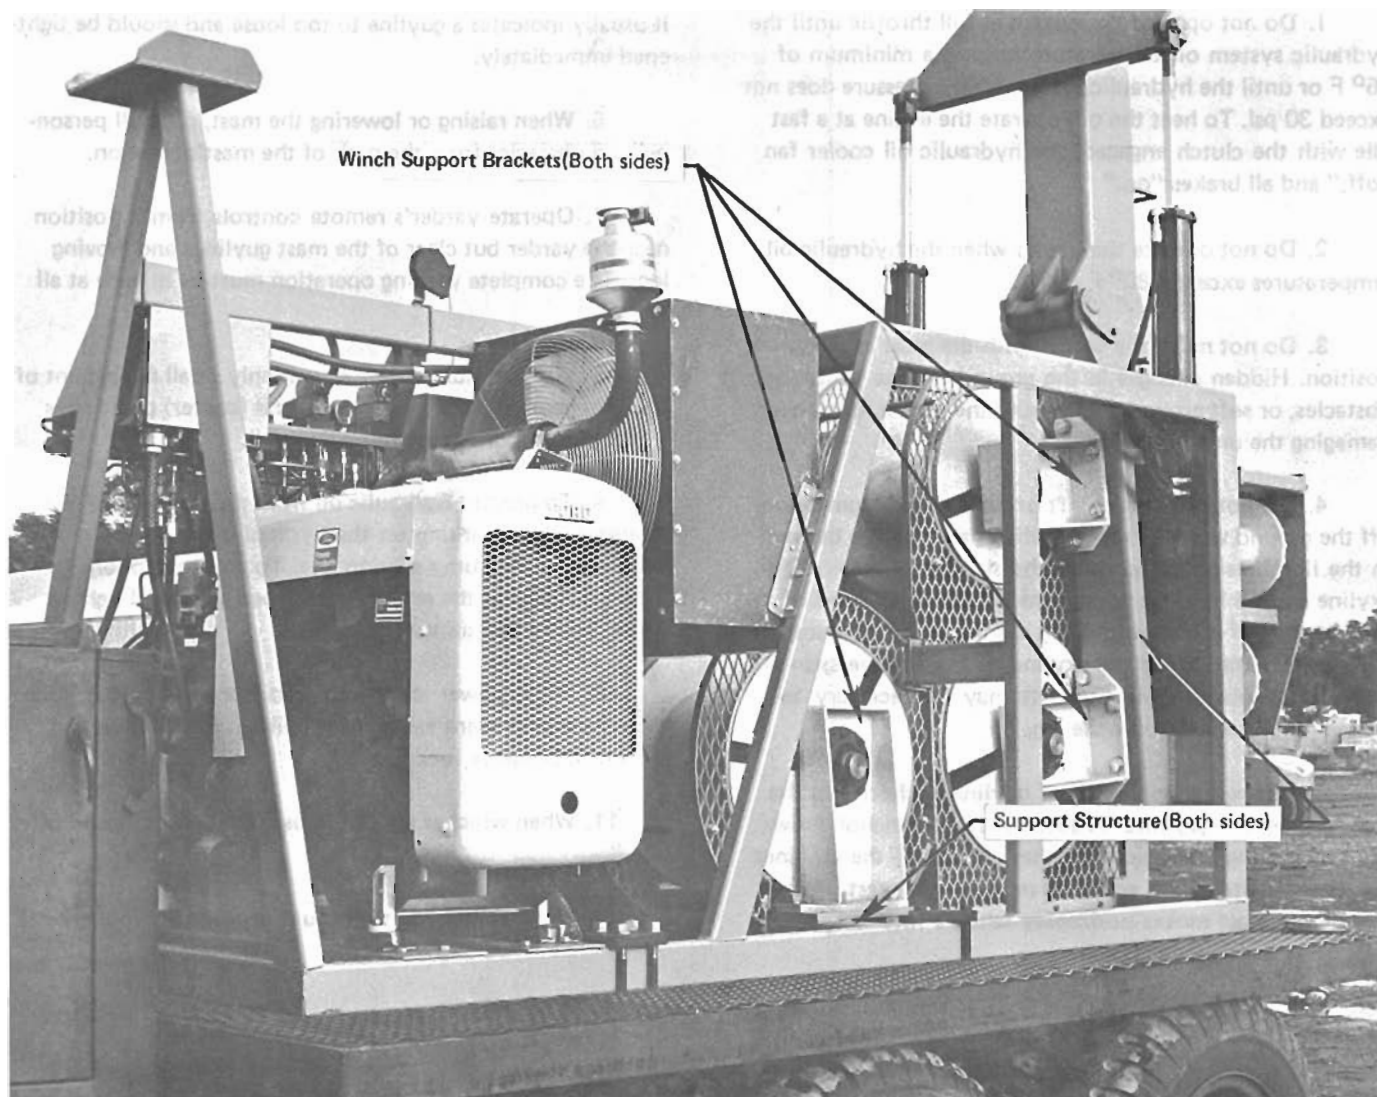

Figure 12.—Winch support brackets.
- Main winch support brackets and supporting structure (fig. 12)